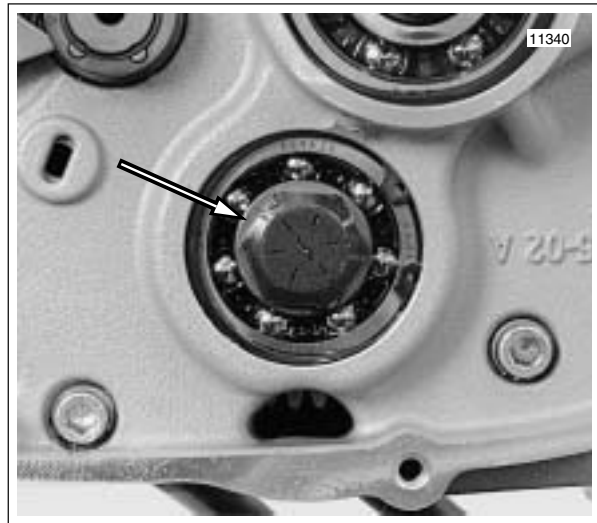

Figure 6-99. Hex Fastener Countershaft Retainer
3. See Figure 6-99. Apply several drops of LOCTITE 271 (red) to last few threads of countershaft retaining screw. Thread screw into end of shaft.
4. Place transmission in gear, apply LOCTITE 271 (red) and tighten hex head fastener (1) to 33-37 ft-lbs (44.8-50 Nm).